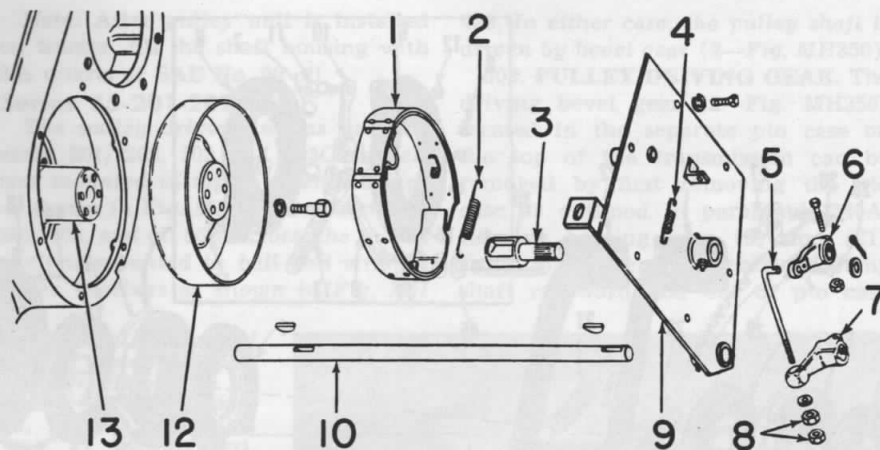

Fig. MH390—Exploded view of band type brake assembly as used on all models equipped with band brakes except 55, 55D, 55K, 55LP, 201, 202, 203 and 203G.
290. To remove brake assemblies for brake band relining or drum renewal, proceed as follows: Disconnect both brake link rods (5—Fig. MH390). Remove brake shaft lever (7) and brake shaft (10) complete with brake pedals. Remove both brake plates (9) complete with brake band units. Remove brake drums (12) if desired. Reinstall parts in reverse order of removal. Adjust brakes as described in paragraph 280.